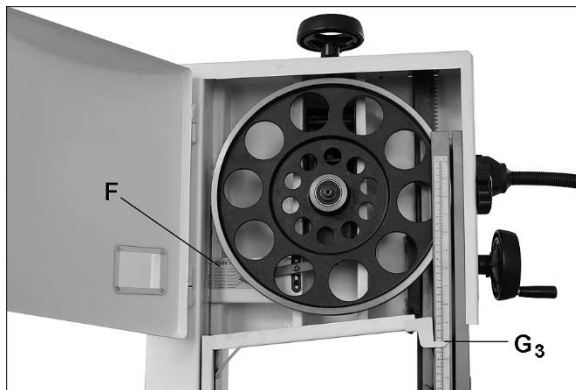

Figure 7-6
3. The gauge (F, Figure 7-6) indicates approximate tension according to blade width in inches. Initially, set blade tension to correspond to width of blade. As you become familiar with the saw, you may find it necessary to alter blade tension from the initial setting.
3. Position blade guide assembly so that bottom of guide bearing assembly is about 3/16-inch above material to be cut. The scale pointer (G₃, Figure 7-6) indicates height of guide assembly from table. This provides minimal clearance between workpiece and bottom of guide bearings, which minimizes blade deflection and enhances operator safety.